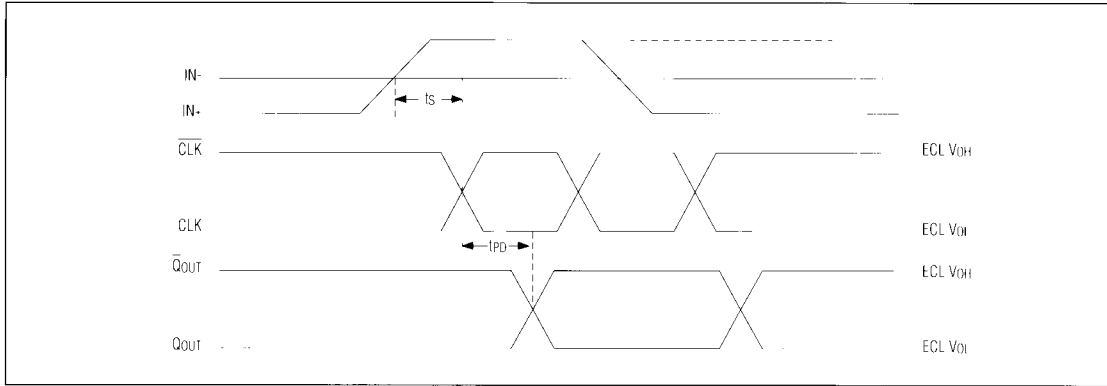

Figure 2. Timing Diagram
**Clock Low:** When the clock is low, the master flip-flop's input stage samples the output of the input amplifier. The slave flip-flop maintains valid outputs from the previously sampled data. The comparator inputs are isolated from the comparator outputs because the slave flip-flop's input stage is disabled. See Figure 2.